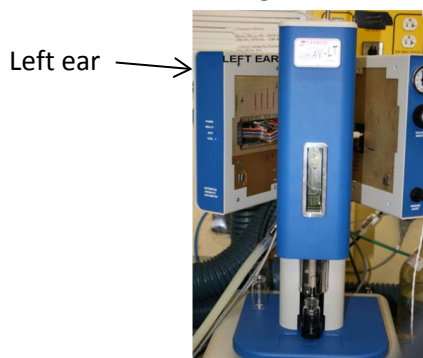

Figure 5: Open miniAV-LT Panels
1. Open the left side panel (left ear) to view the LED light and to check the bath fluid level, as shown in Figure 5.